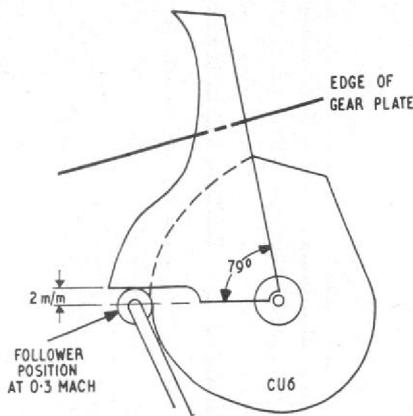

Fig. 3. Adjustment of log Mach cam CU6 by means of 79° template from underside
cam follower of CU6 on axis 8 is positioned as shown in fig. 3. If necessary release the clamp locking CU6, position the follower correctly and refasten the clamp.
(2) Positive errors increasing with Mach No. in a non-linear manner or negative errors in the initial range changing to positive errors at higher Mach No. Repeat the procedure of para. 27, 28, 29, 46 and 47, setting the log Mach cam CU6 (fig. 3) to about 77°. (See Note.)
(3) Negative errors increasing with Mach No. in a non-linear manner or positive errors in the initial range changing to negative errors at higher Mach No. Repeat para. 27, 28, 29, 46 and 47, setting the log Mach cam CU6 (fig. 3) to about 81°. (See Note.)